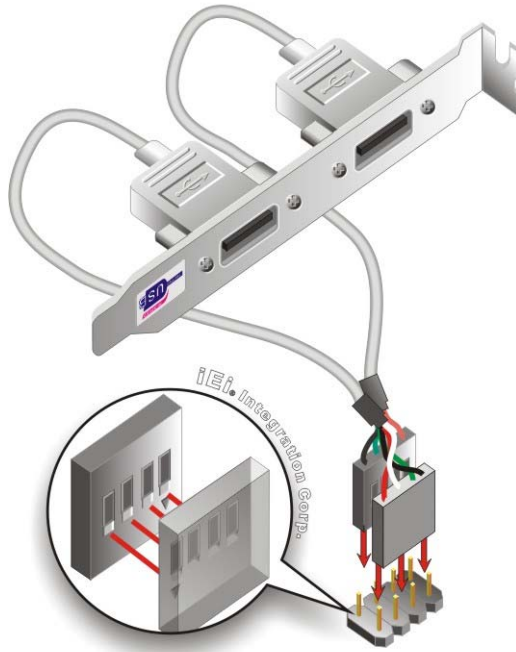

Figure 4-14: Dual USB Cable Connection
Step 3: Insert the cable connectors Once the cable connectors are properly aligned with the USB connectors on the WSB-H610, connect the cable connectors to the on-board connectors. See **Figure 4-14**.